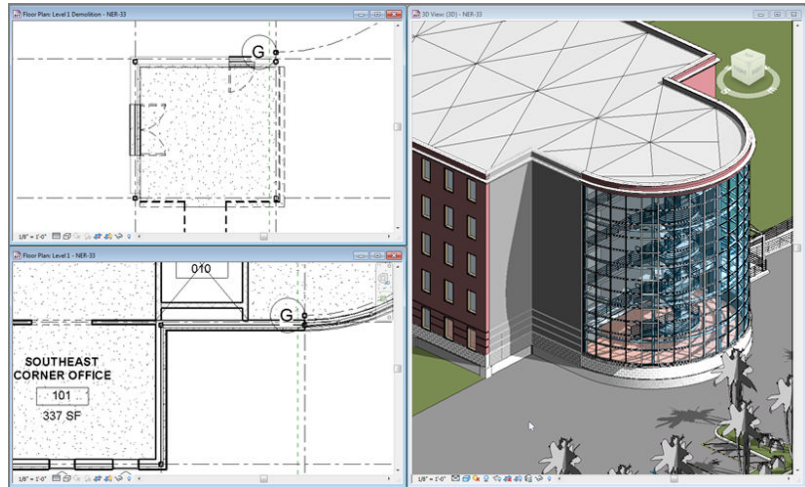

FIGURE 21.7: The completed phasing
19. In the properties, set Phase Demolished to Demolition. Revit removes the doors and in-fills the openings, as shown in Figure 21.7. (It's understood that the entire building should be existing. This is an example of how Revit behaves during the phasing process.)